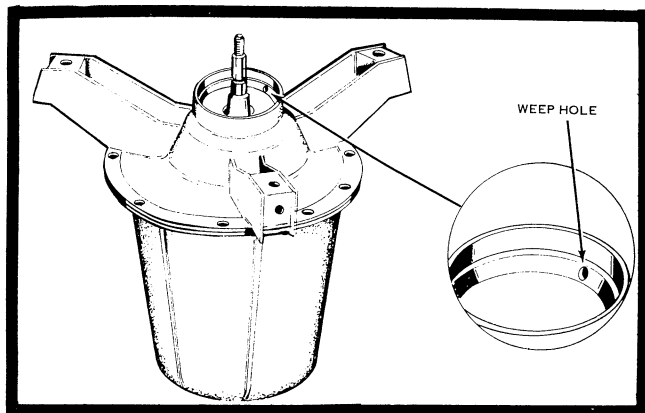

Figure 68 -
- l. With a number ten wire, check oil level by inserting wire through weep hole. To do this remove clutch spring and collar, *Figure 68*.